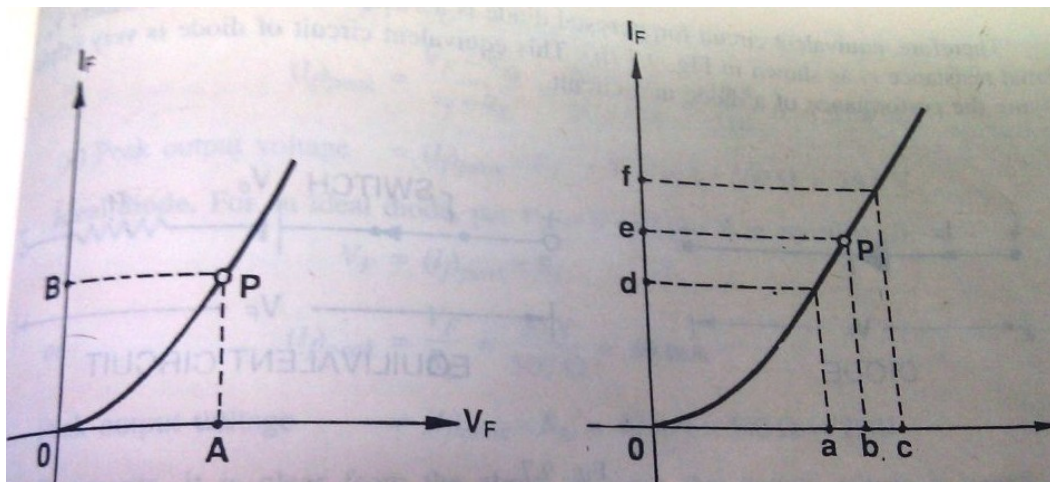

Figure 1.2.3
i) **dc forward resistance:** It is the opposition offered by the diode to the direct current. It is measured by the ratio of dc voltage across the diode to the resulting dc current through it. Refer to the Figure 1.2.3(a) which shows forward characteristic of a diode. When forward voltage is OA, the forward current is OB. So,
Refer to the Figure 1.2.3(b); *ac forward resistance, $R_f = \frac{ac}{df}$*